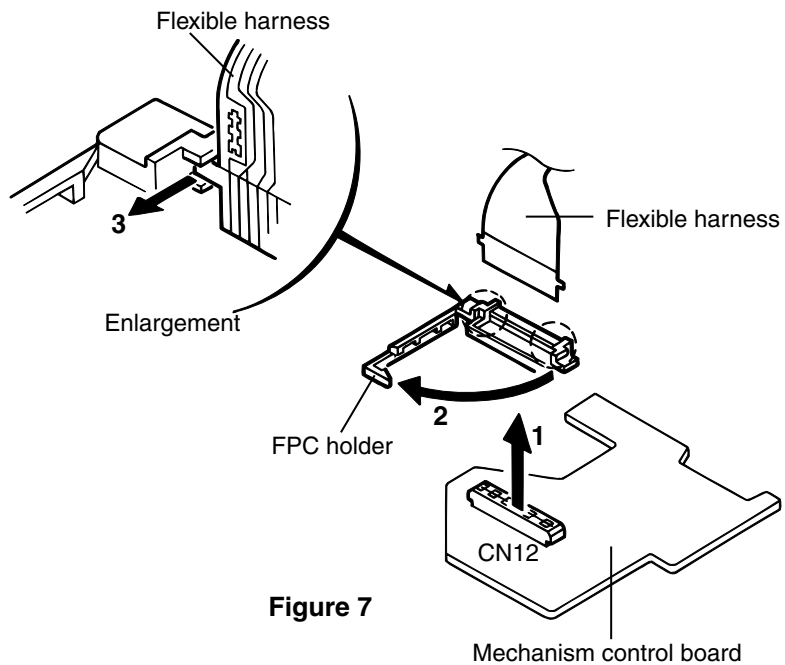

Figure 7
4. Pull out the FPC holder from the CN12 connector on the reverse side of the mechanism control board and remove the flexible harness, referring to Figure 7.